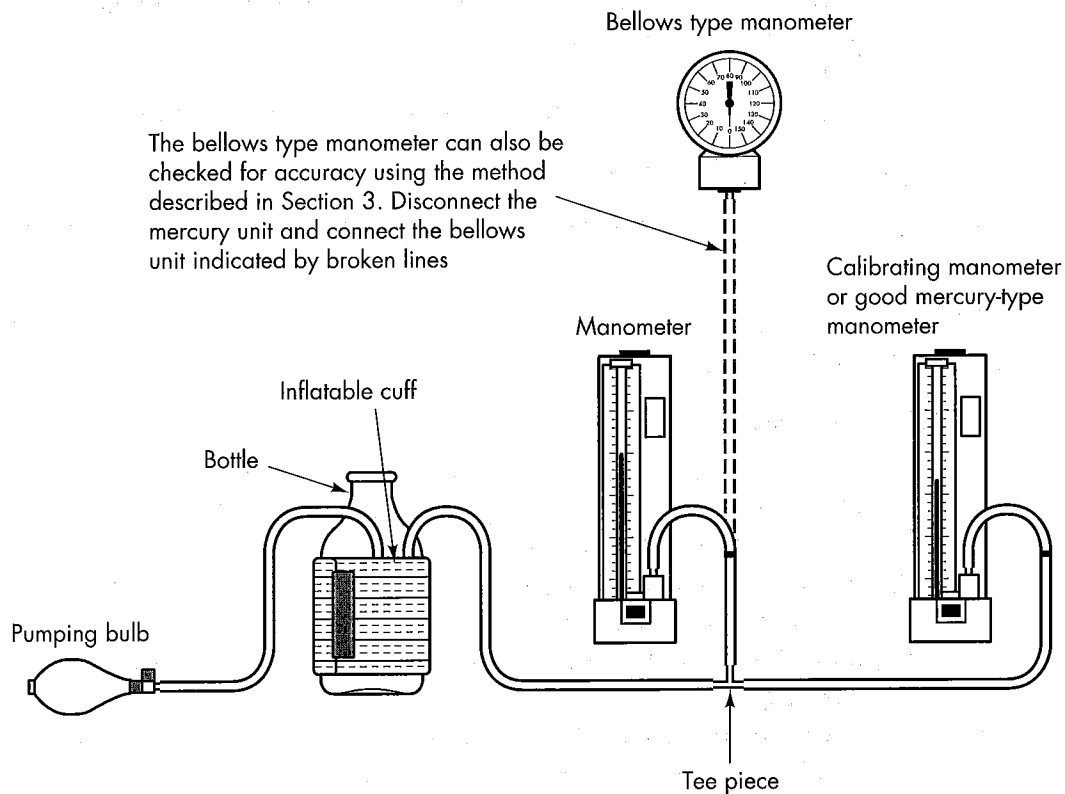

Figure 52: Testing/calibrating manometer arrangements
- set up the test equipment (see Figure 52)